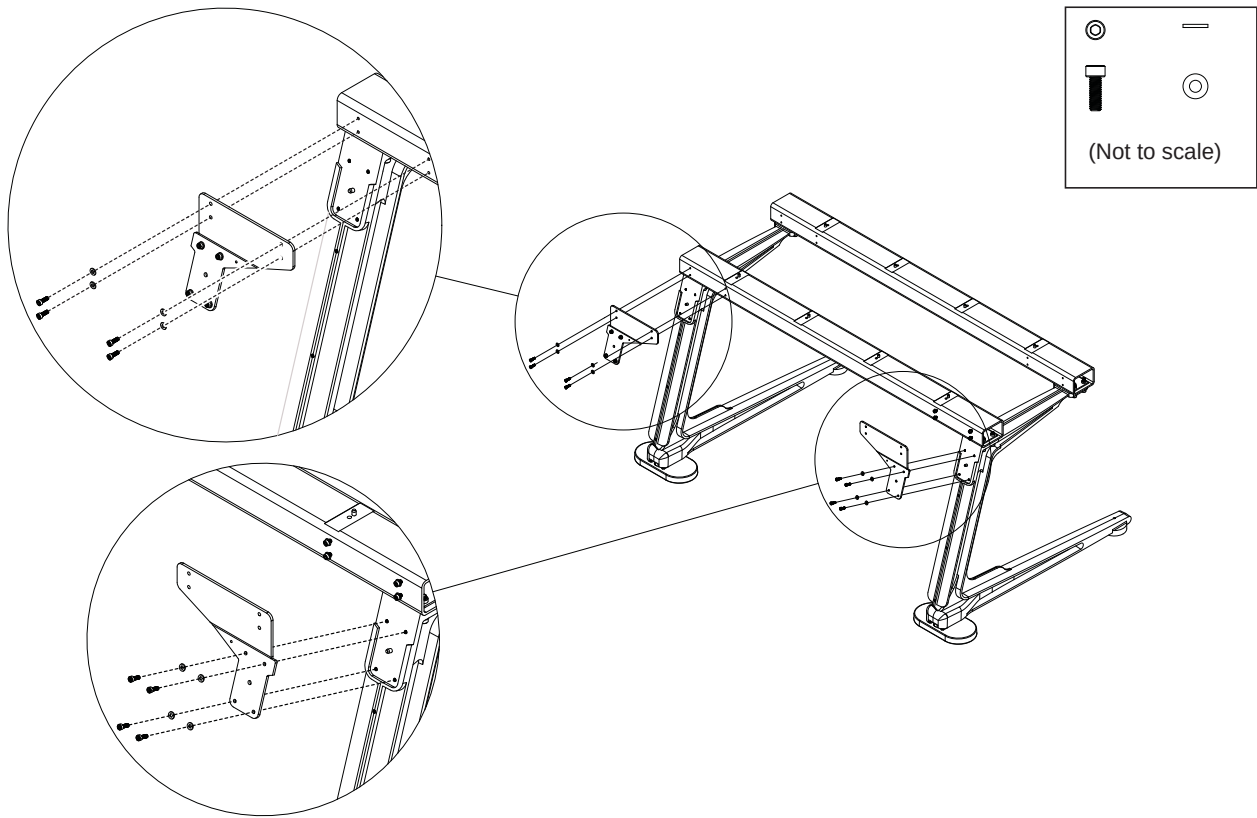

Figure 5. Attaching the Back Corner Brackets
- 1 Attach the Back Corner Brackets as shown in Figure 5 using four fasteners and washers (included) per bracket. Align the pins on the brackets with the holes in the top of the Legs.